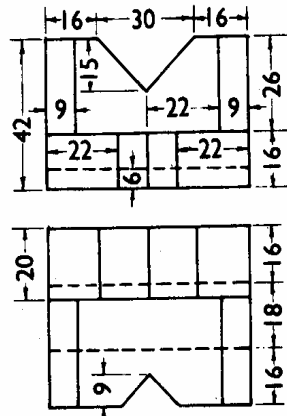

Figure 7
7. Two views of a casting are shown in figure 7. Draw the isometric view of the casting (all dimensions are in mm). [16]